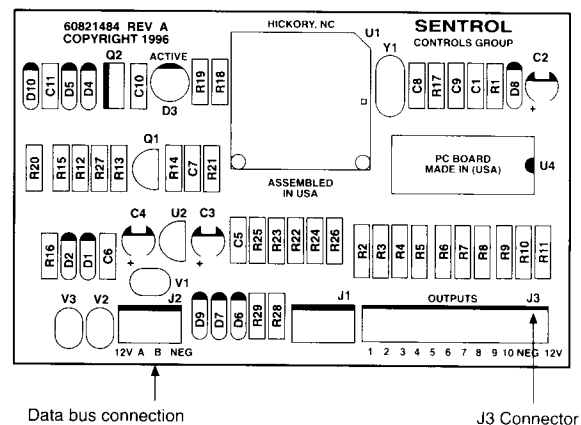

Figure 7 ZXODM Wiring Diagram
The ODM must be addressed as ODM1. The ODM comes defaulted from the factory as ODM1. You may use multiple ODMs provided that power restrictions are followed. Connect the ODM to the control as shown in Figure 7. Use the twelve (12) wire cable provided with the ODM for the outputs as shown.